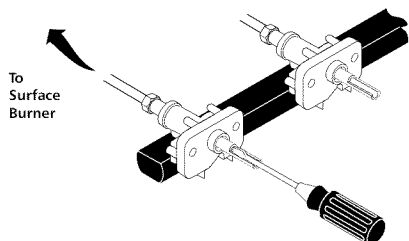

Fig. 9
- Insert a thin-bladed screwdriver into the hollow valve stem and engage the slotted screw inside. Flame size can be increased or decreased with the turn of the screw. Turn counterclockwise to increase flame size. Turn clockwise to decrease flame size. (See Figs. 9 & 10).